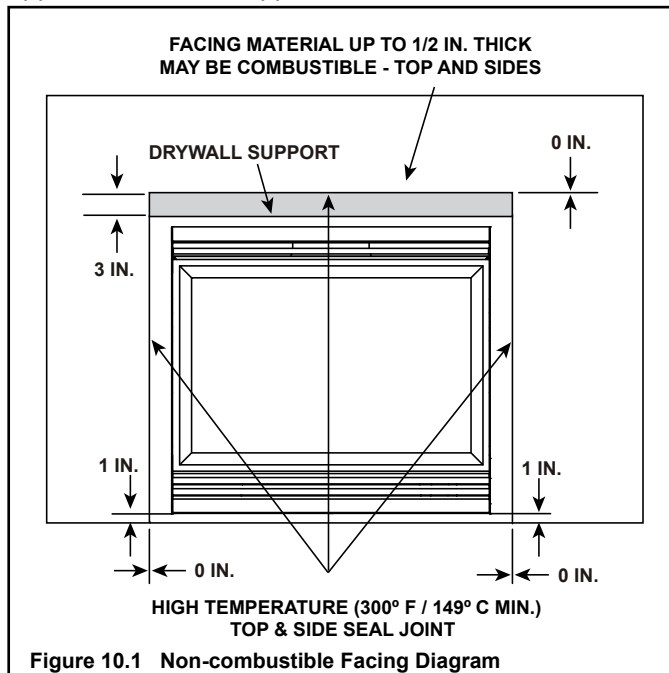

Figure 10.1 Non-combustible Facing Diagram
- Seal gaps between the finished wall and appliance top and sides using a 300 °F minimum sealant. Refer to Figure 10.1.